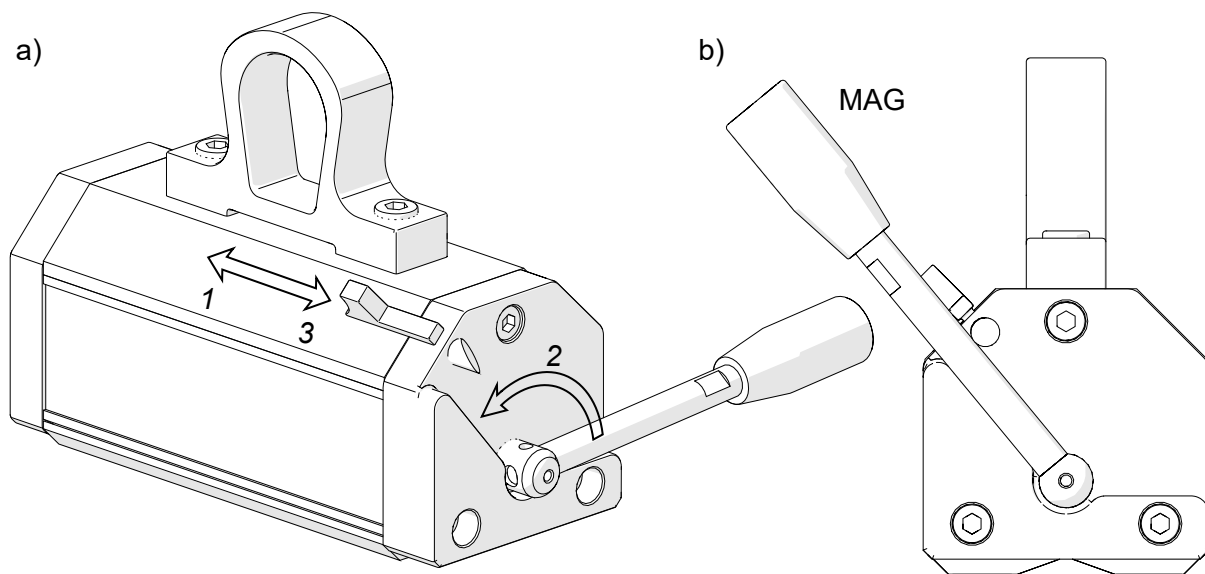

Fig. 3. Magnetizing the lifter (a), lifter magnetized (b)
Turn on the lifter by retracting the lock pin (1, Fig. 3), rotating the lever to position MAG (2), and locking the lever in this position with the lock pin (3). Beware of staying inside the workspace.